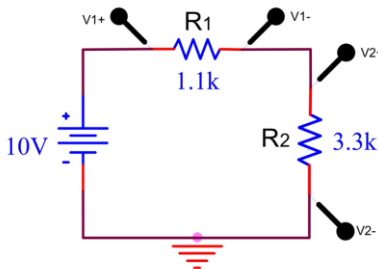

Figure 1.13
6. Reconnect the circuit as depicted in Figure 1.13 to measure voltage. Measure V_1 and V_2 and record the obtained values.